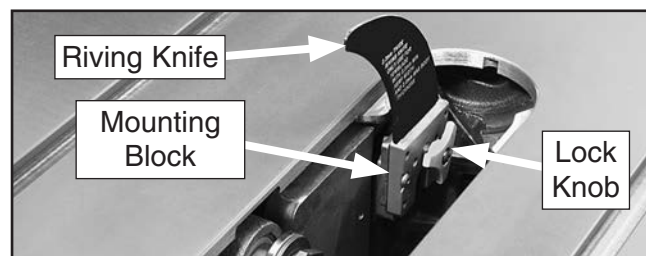

Figure 15. Riving knife installed.
12. Unthread lock knob on riving knife/blade guard mounting block (see **Figure 15**) several turns. Push riving knife away from knob, then lift riving knife up to remove it.